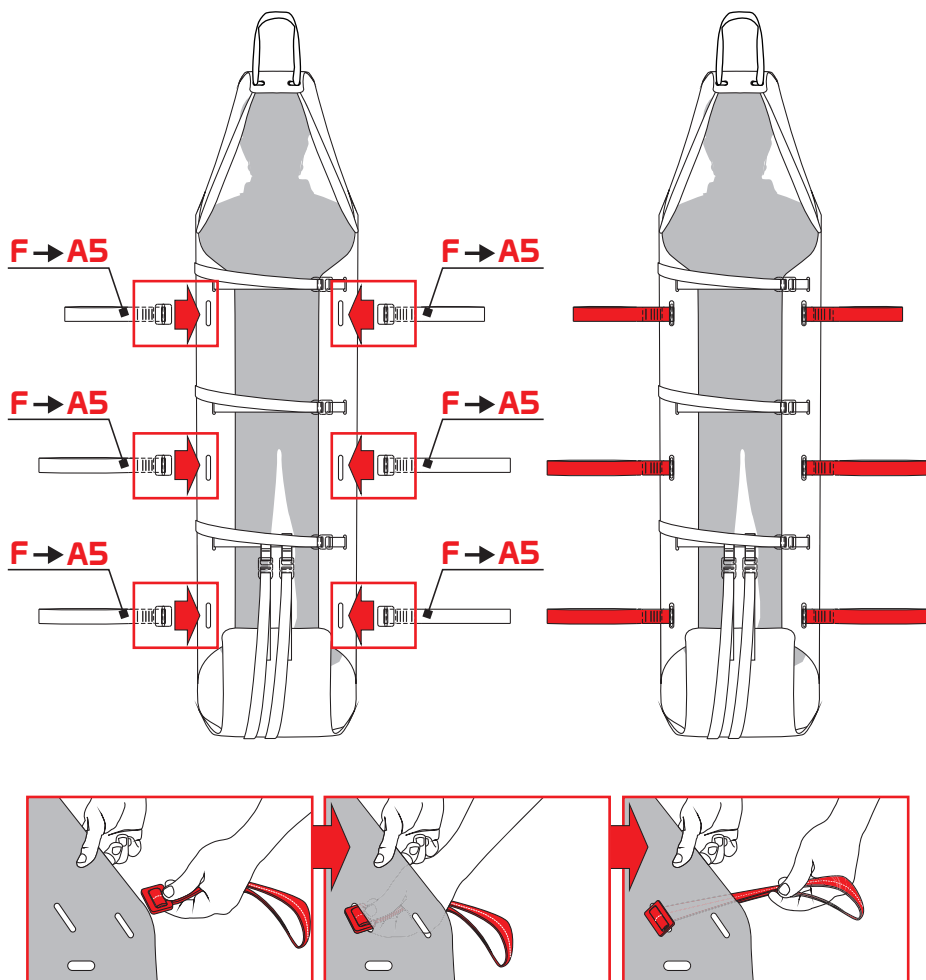

Fig.10
a) manual transport: insert only the side handles (F) in the eyelets A5 on the support surface (fig. 10) - Please note: we suggest inserting the shortest couple of handles in the place near the torso of the patient, in order to keep the head higher than the feet.